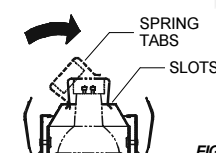

FIG.11
- Gently rotate the trim to fit it to the ceiling. (Fig.11)
- Install the spring tabs into the slots in the base. (Fig.11)